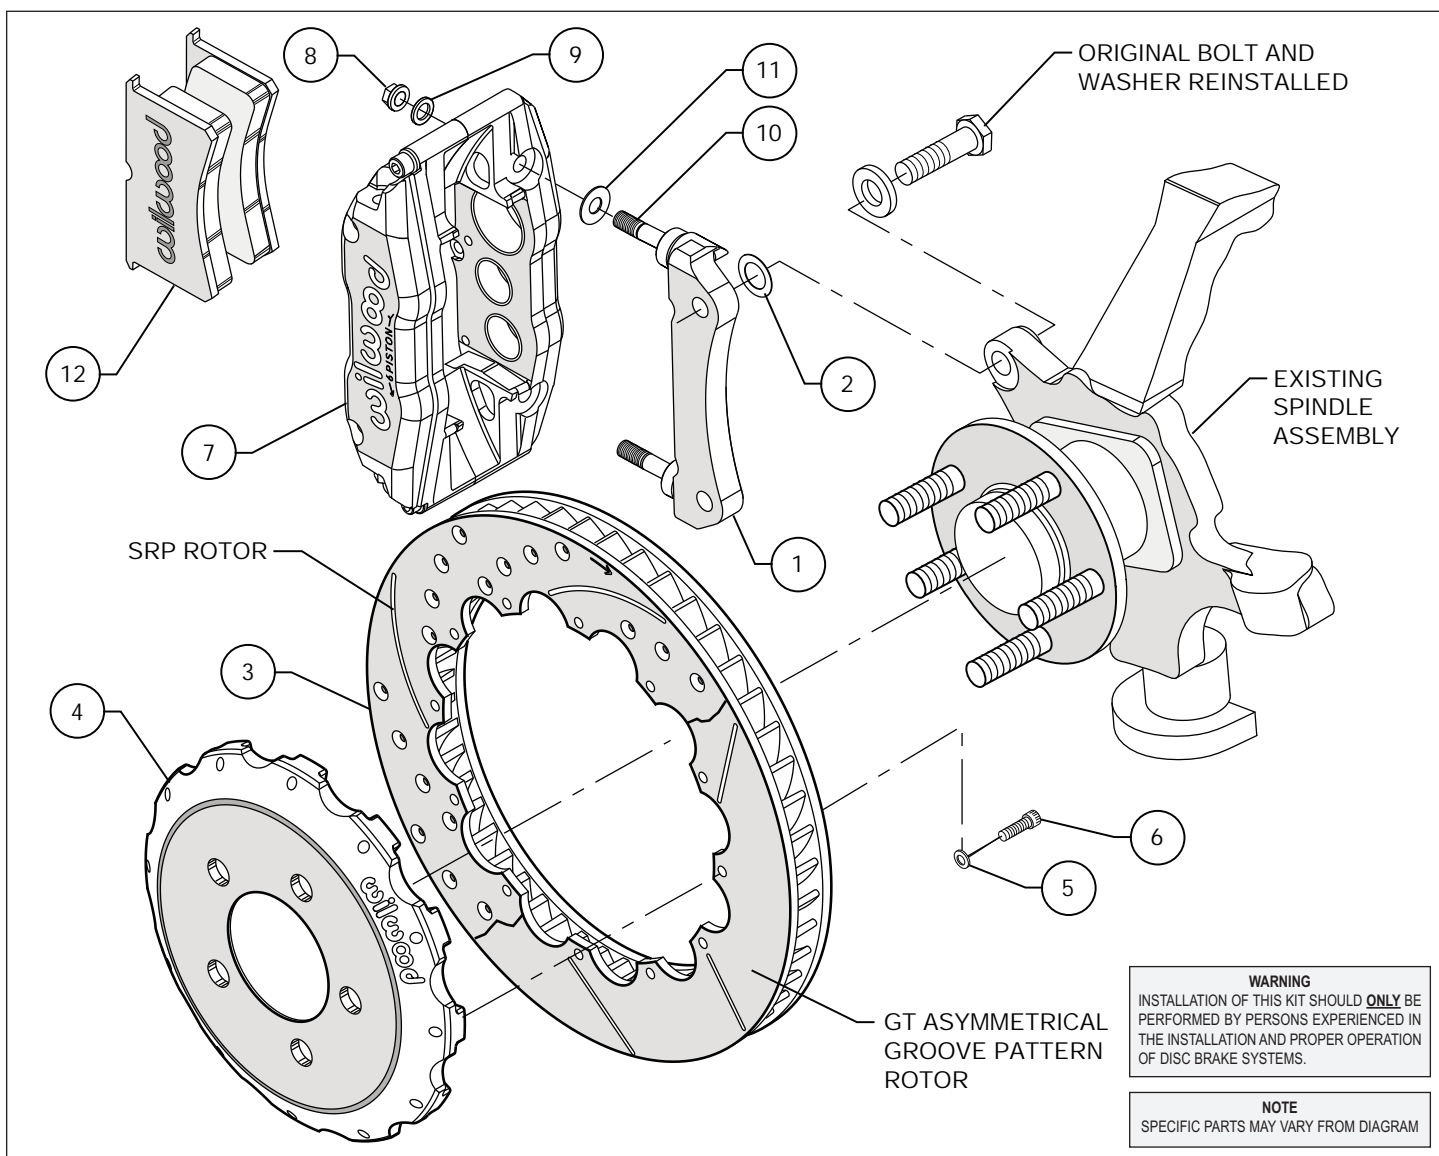
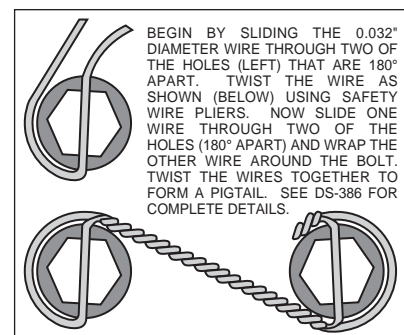

Figure 1. Typical Installation Configuration
Figure 3. Safety Wire Diagram
- Assemble the rotor (3) to the hat (4) with the bolts (6) and washers (5) as indicated in the configuration pictured in Figure 1. Be sure all bolts thread in smoothly and are snug. Then, torque all bolts in an alternating sequence to 85 **in-lbs**. The rotor mounting bolts (6) must be lockwired using standard 0.032 inch diameter stainless steel safety wire as shown in Figure 3. Please refer to Wilwood's data sheet DS-386 (available at www.wilwood.com/pdf/ds386.pdf) for complete safety wire installation instructions.
- **NOTE:** Please reference the caution statement at the beginning of the assembly instructions. Install one shim (11) over each stud (10) on the radial mount bracket (1). Slide the caliper (7) in place over the studs and rotors and install the washer (9) and lock nut (8) to hold the caliper in place. The caliper bleed screws should be pointing up. Snug the lock nuts (8) and check that the rotor (3) is centered in the caliper (7). Add or subtract .015" shims (2) as necessary between the mount bracket and the spindle to center the caliper.
- Remove the caliper center bridge pad retainer bolt, nut, and tube from the caliper. Slide the brake pads (12) into place. They should install easily without interference. Check that the outside radius of the brake pad is aligned with the outside diameter radius of the rotor face. Add or subtract .035 shims (11) between the caliper and mount bracket to gain the proper alignment. Reinstall the center bridge pad retainer tube, bolt, and lock nut. The locknut should be snug without play in the bolt or tube. Be cautious not to over tighten.
- Once all clearances have been checked, remove the wheel, caliper, hat, and rotor from the spindle and hub. Secure the caliper mounting bracket (1) to the spindle using red *Loctite*® 271. Torque the bolts to 65 ft-lbs. Reinstall the hat and rotor assembly and again use several lug nuts to hold it in place. Lubricate caliper mounting studs and nuts with lightweight oil, reinstall the caliper, torque the caliper nuts (8) to 30-35 ft-lbs.